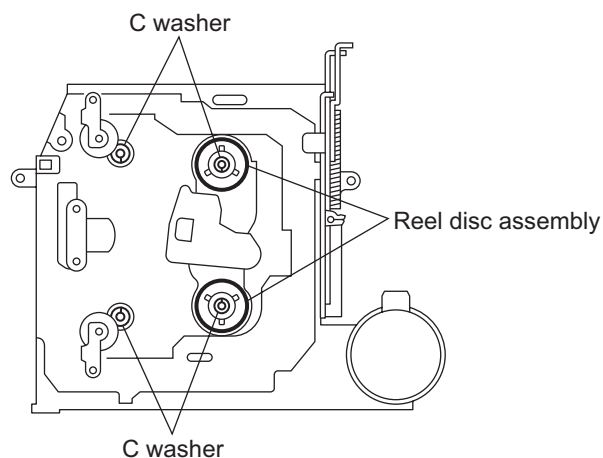

Fig.4
2.2.7 Removing the reel disc assembly (See Fig.4)